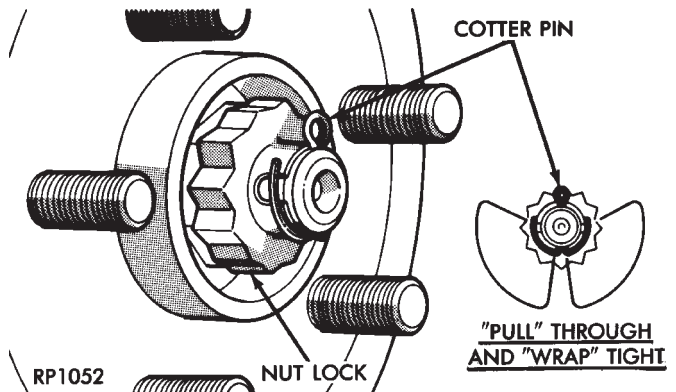

Fig. 19 Install Spring Washer, Nut Lock, & Cotter Pin
(13) Install spring washer, nut lock, and new cotter pin. Wrap cotter pin prongs tightly around nut lock (Fig. 19).